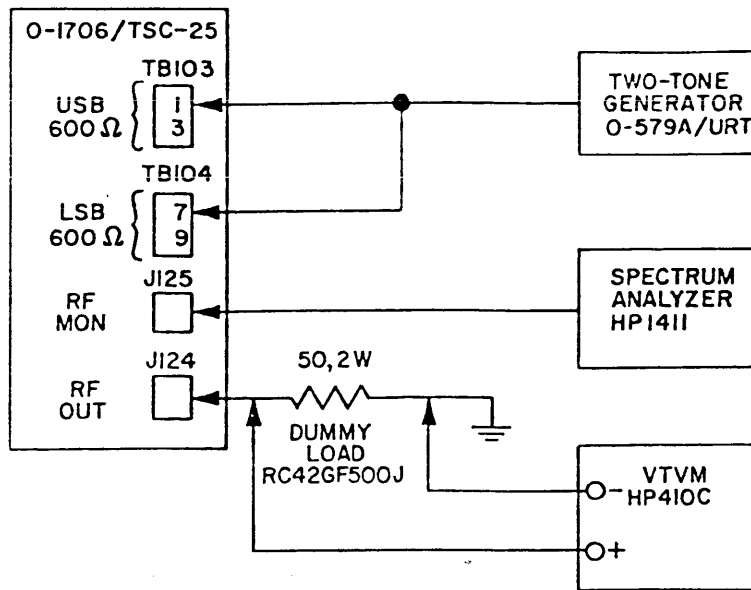

Figure 5-12. Final alignment, test setup.
b. Final Overall Alignment. The final overall alignment of the Exciter entails readjustments to spectrum generator Z101, and comb filters Z102 and Z103; mode level adjustments; and modulation level adjustments. The final alignment should not be attempted until after all individual circuit boards have been adjusted in accordance with the procedures in paragraph 5-5 a. (1) through (14).
(1) Preliminary Steps. Perform the following preliminary steps:
- (g) Connect two tones from generator to both 600-ohm sideband inputs (TB103 and TB104) on rear panel as shown in figure 5-12. Set output for 78 mv rms (-20 dB).
(2) Spectrum Generator Board Z101. Perform final alignment of the spectrum generator as follows:
(5) Modulation Level Adjustments and Check.
- (a) Connect Exciter in test setup as shown in figure 5-12.